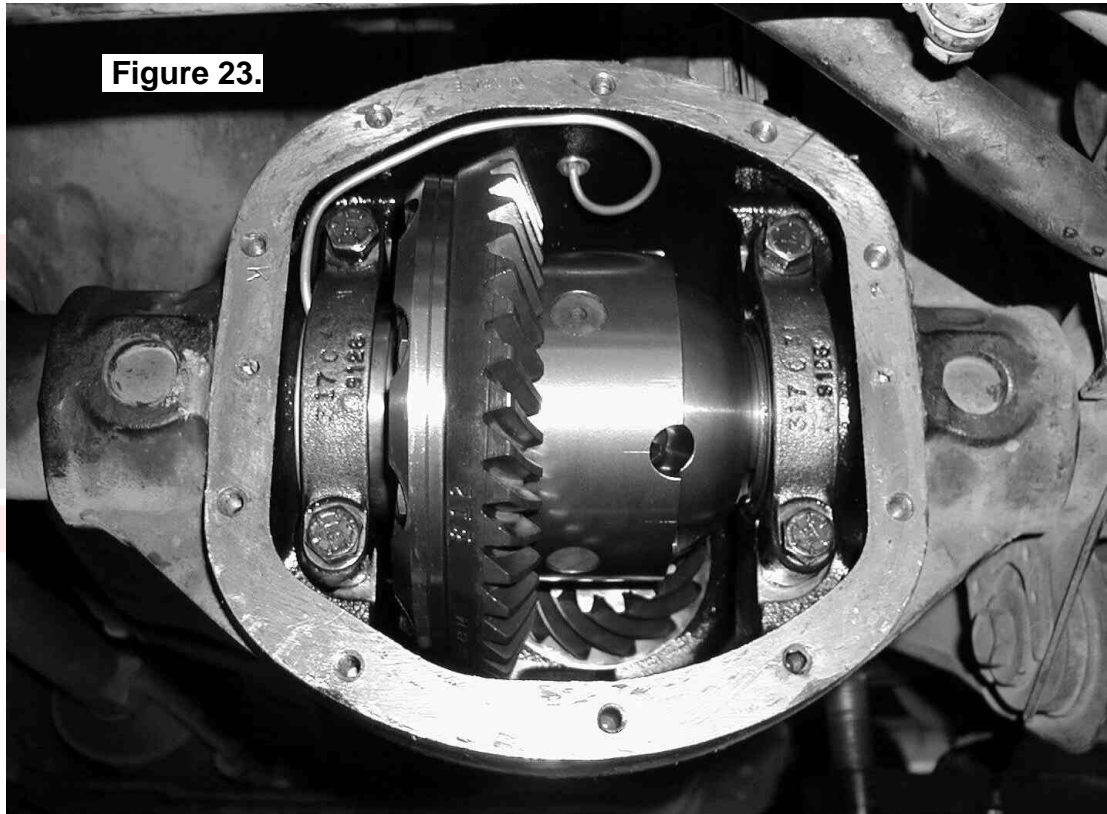

Figure 23.
- Without using sharp, jagged tools such as pliers (usually your hands are the best tool for this job), gently bend the seal housing tube so that it runs along the inside of the differential housing as shown in Figure 23.